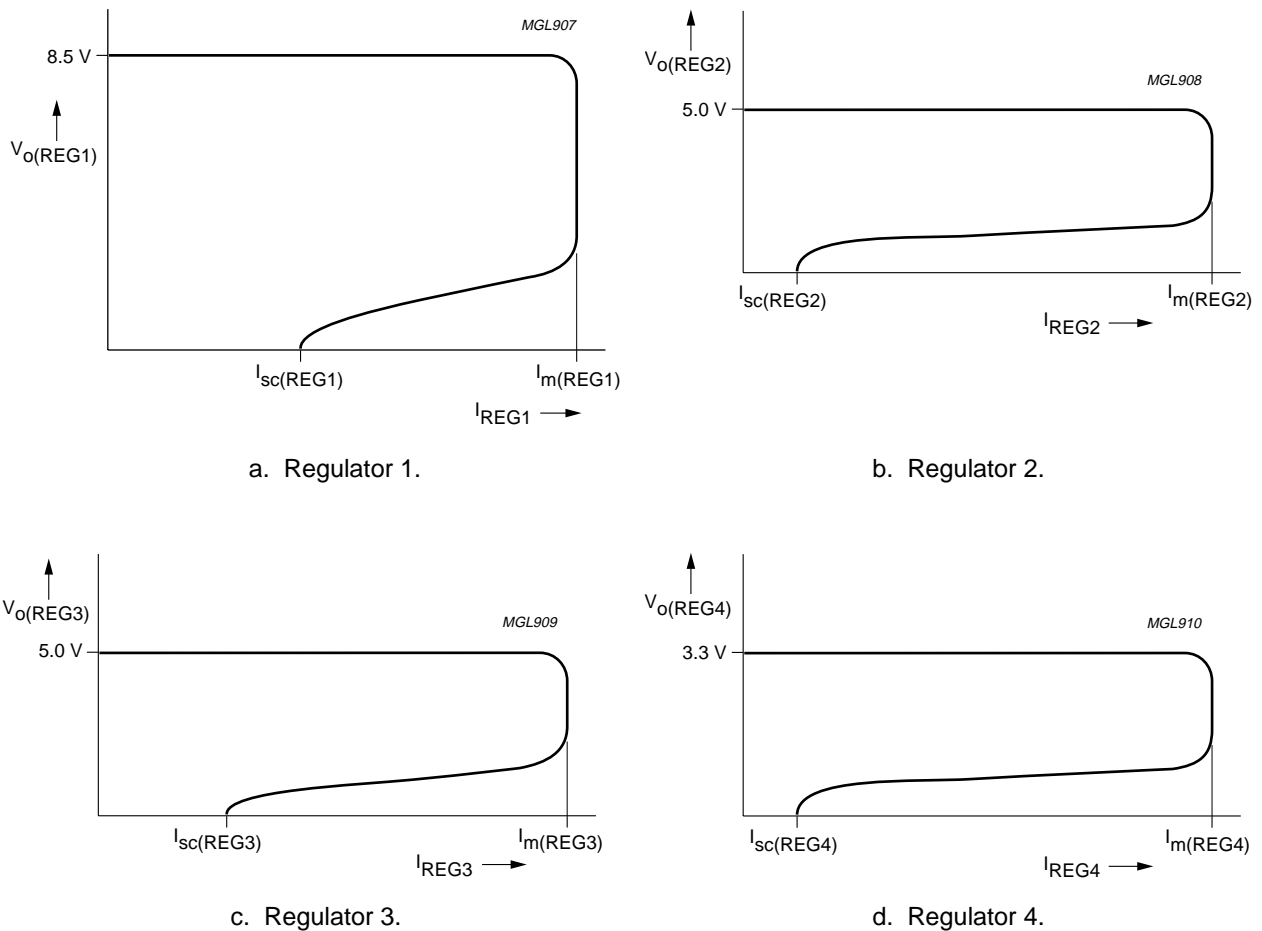

Fig.6 Foldback current protection of the regulators.
- At current limit, $I_{m(REGn)}$ is held constant (see Fig.6).
- The foldback current protection limits the dissipated power at short-circuit (see Fig.6).